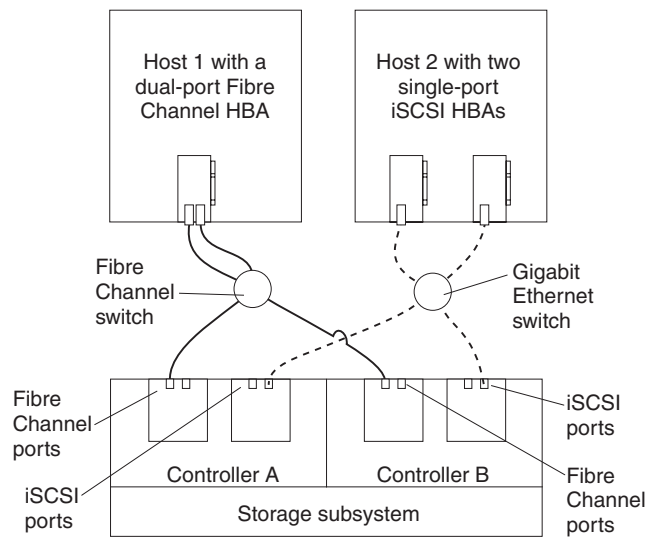

Figure 62. Example of iSCSI and Fibre Channel hosts, multiple-port configuration
- iSCSI and Fibre Channel hosts, multiple-port configuration, as shown in Figure 62 on page 87
Figure 62 shows iSCSI and Fibre Channel hosts in a multiple-port configuration.